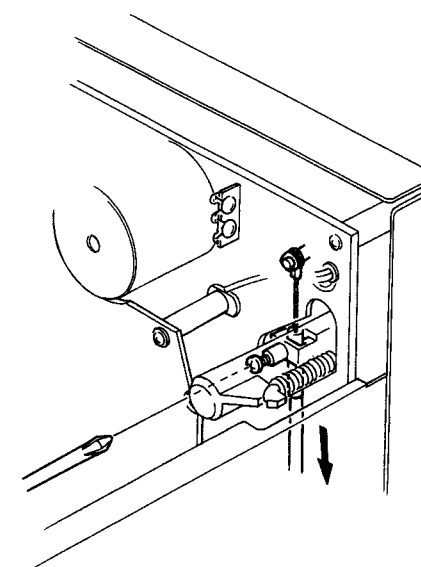

Fig. 5.19.2
- (2) With pushing the Eject Arm by hand, loosen the screw and then pull the Eject Wire in the direction of the arrow until it stops as shown in Fig. 5.19.2.
- (3) Tighten the screw, then apply a quantity of lock tight paint.